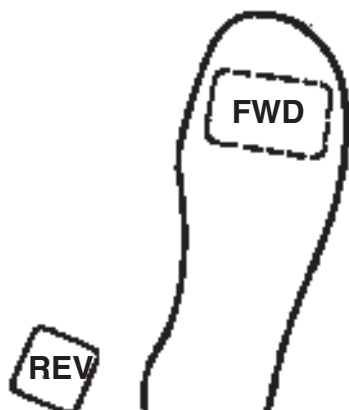

Figure 5
**Traction and Stopping Pedal (Fig. 4-5)**—The traction pedal has three functions: one, to make the machine move forward, two, to move it backward and three, to stop the machine. Using the heel and toe of your right foot, depress the top of the pedal to move forward and bottom of the pedal to move backward or to assist in stopping when moving forward. Also, allow the pedal to move or move it to the neutral position to stop the machine. For operator comfort, do not rest the heel of your foot on reverse when operating forward (Fig. 5).